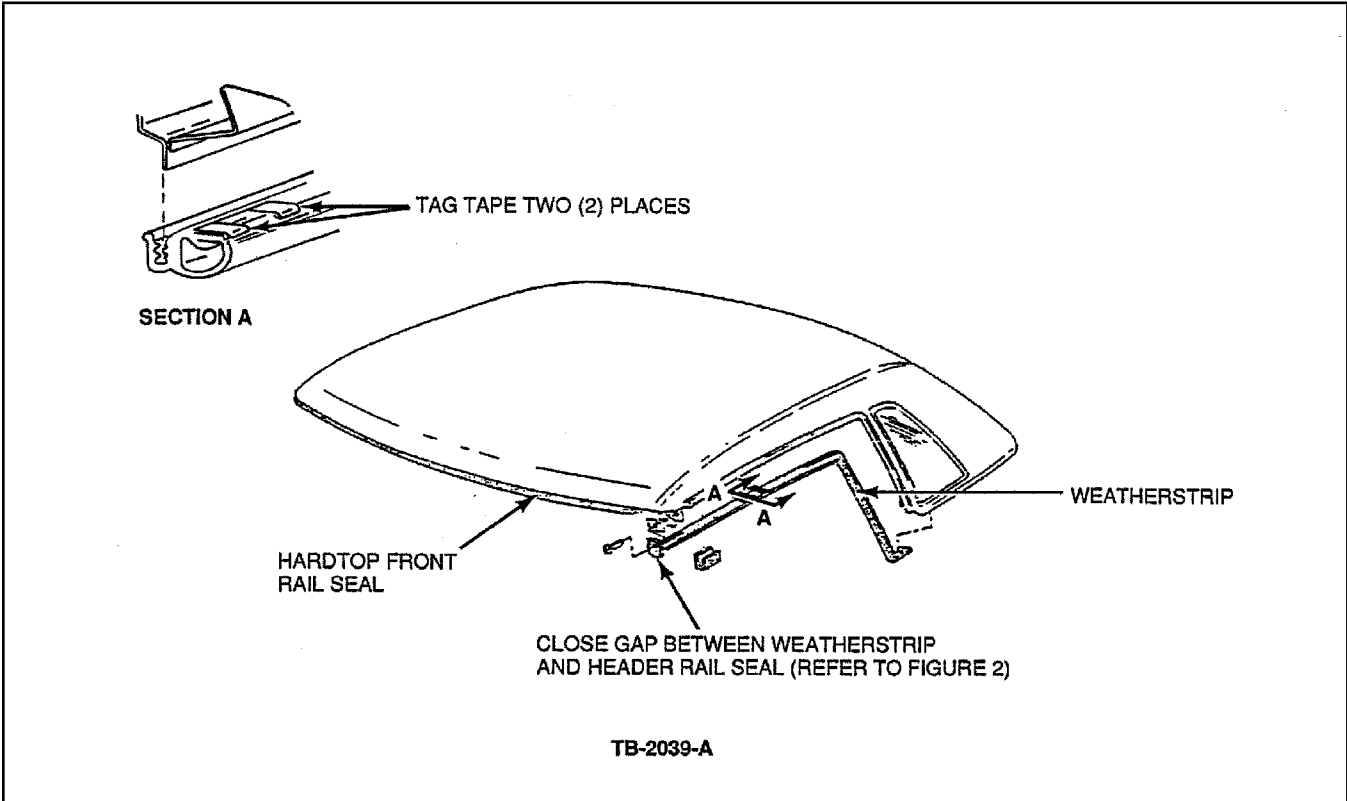

Figure 10 - Article 91-20-2
ADJUSTMENT FOR INSPECTIONS A AND B MAY BE CARRIED OUT BY ALTERING THE HEIGHT OF THE HARDTOP AT RETAINING POINTS IN THE HEADER RAIL. THE PRIMARY CONCERN WHEN ADJUSTING THE HARDTOP IS TO ENSURE CORRECT FIT OF THE DIVISION BAR TO THE HARDTOP FRONT RAIL SEAL. THE SECONDARY CONCERN IS THE FIT ALONG THE HEADER RAIL SEAL, FIGURE 10.
- b. Press the weatherstrip against the side rail sheet metal by pressing thumb along the weatherstrip to seal, Figure 10.